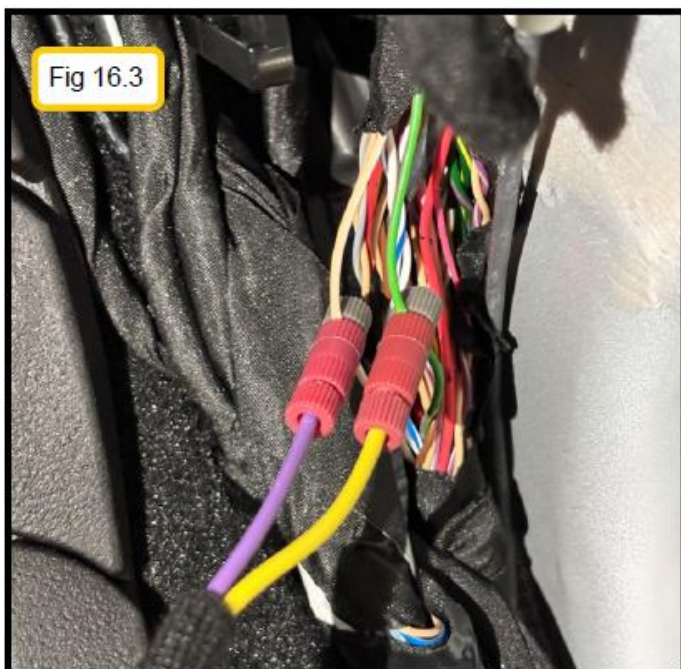

Fig 16.3
5. Install the Posi-Taps following the instructions on page 11 using harness 74341 tapping wires. (Fig 16.3)